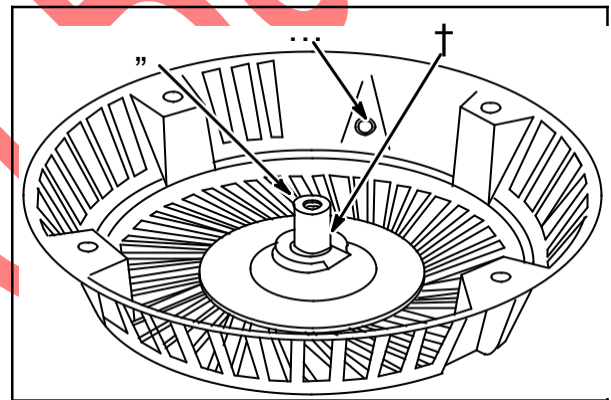

Fig. 68
Inspect starter housing for wear and sharp edges at rope eyelet (5), center pivot post (4), and at inner spring anchor (6), **Fig. 68**. Replace if worn or damaged.